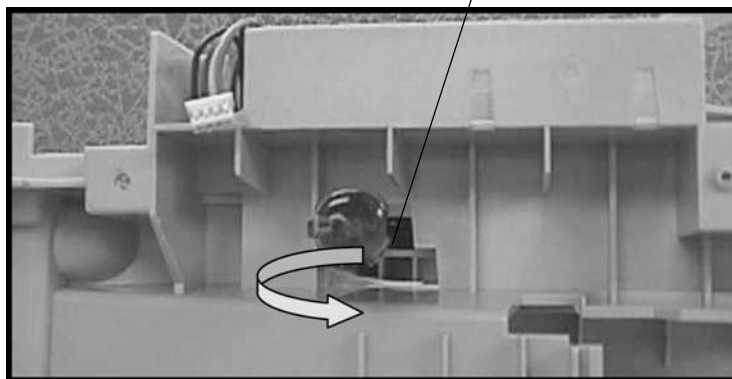

Figure 4
5. Release the right catch located underneath the right side of the Control Panel/Scanner Chassis Assembly, Figure 4.